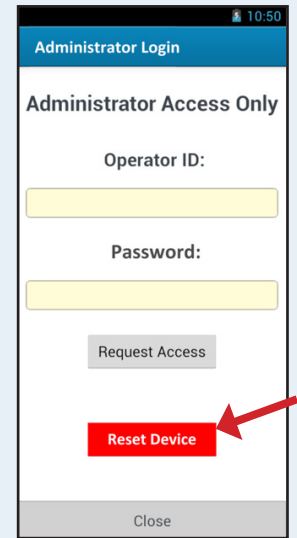

Figure 7-1:
3. Scroll down on the screen and press **RESET DEVICE** (Figure 7-1).